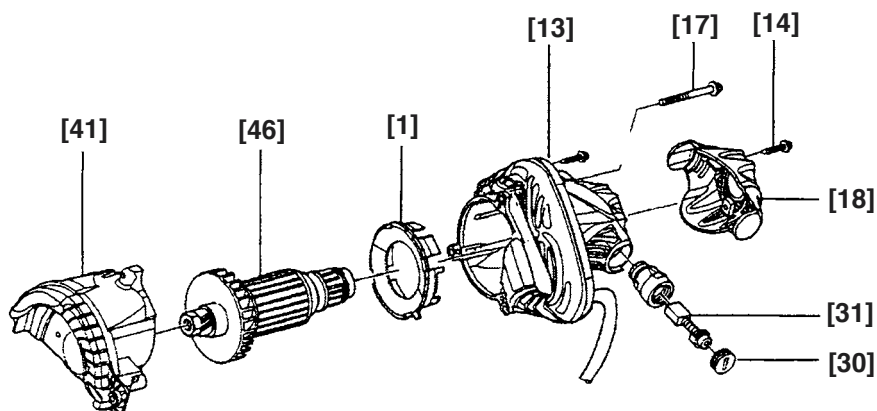

Fig. 2
(2) Disassembly of the Housing Ass'y **[13]** (Fig. 2)
- ① Loosen the two Tapping Screws (W/Flange) D4 x 20 (Black) **[14]** to remove the Tail Cover **[18]** then remove the two Brush Caps **[31]** and two Carbon Brushes (1 Pair) **[30]**.
- ② Loosen the three Machine Screws (W/Washers) M5 x 25 **[17]** to remove the Housing Ass'y **[13]** and Armature **[46]** from the Gear Cover **[41]**. Then pull the Fan Guide **[1]** out of the Housing Ass'y **[13]**